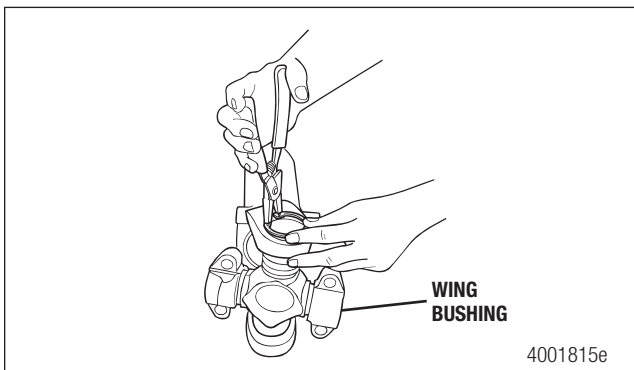

Figure 5.58
- Use snap ring pliers to install the snap ring into the snap ring groove. Figure 5.58. Fully seat the snap ring.